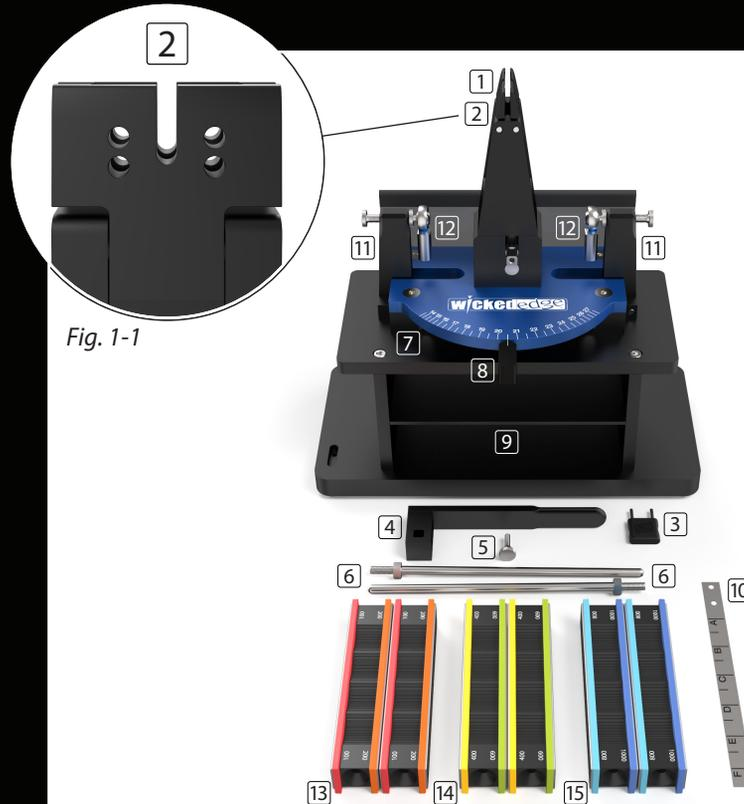

Fig. 1-1
2. Two Depth Settings for Repeatable Mounting (Figure 1-1)
6. Guide Rod (2)